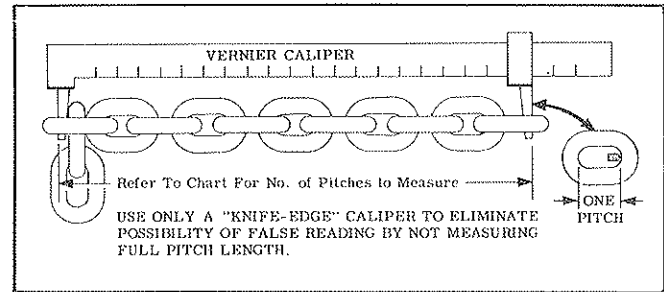

Figure 5-1. Checking Coil Chain Using Vernier Caliper
(1) On coil type load chain, slacken chain and observe bearing surface between links. Check for nicked, gouged, twisted, pitted or worn links. Chains with excessively pitted, worn or damaged links should be replaced using only factory approved chain. Never weld or attempt to repair coil load chain. Check coil chain for elongation from wear using a vernier caliper (see figure 5-1). If chain exceeds limits given in table it must be replaced.